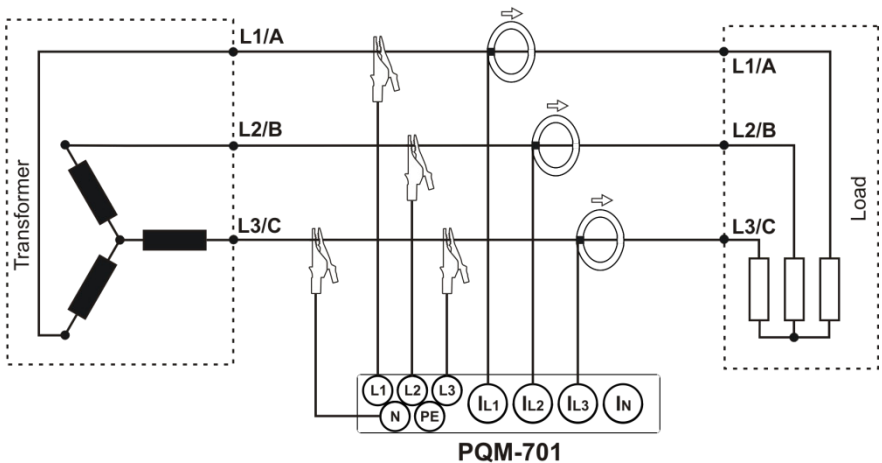
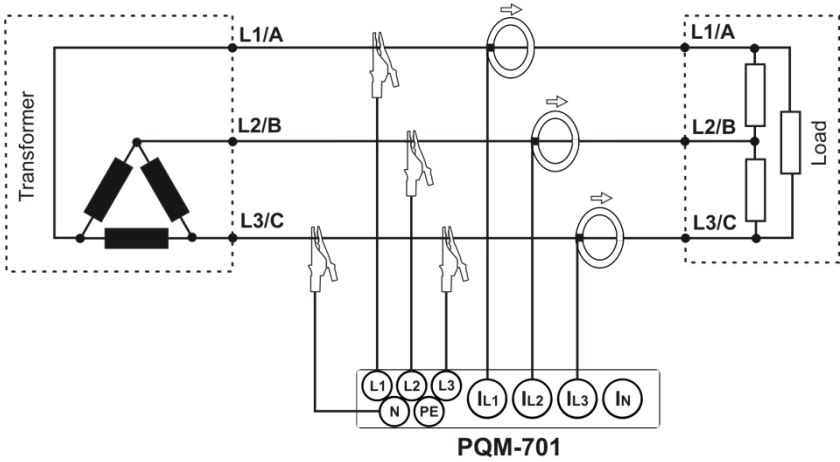
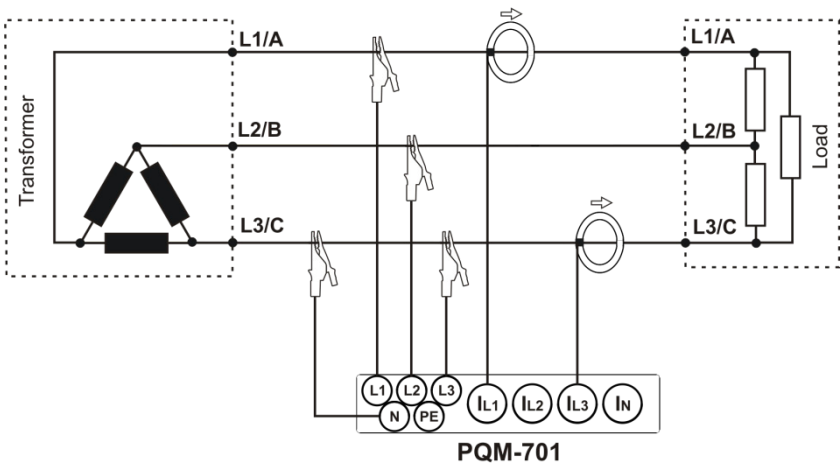
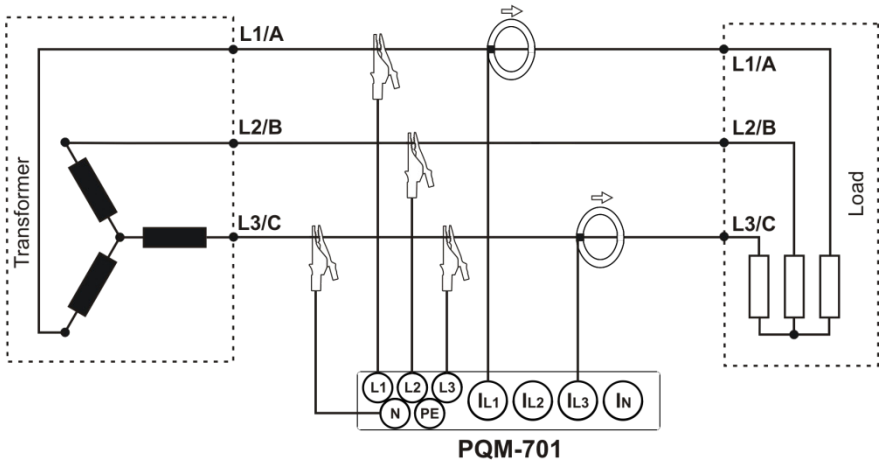

Fig. 7. Connection diagram – three-phase wye system without neutral conductor.
Fig. 8. Connection diagram – three-phase delta system.
Fig. 9. Connection diagram – three-phase delta system (current measurement with Aron's method).
Fig. 10. Connection diagram – three-phase wye system without neutral conductor (current measurement with Aron’s method).
- Three-phase 3-wire delta (Fig. 7).
This method can be used in the delta systems (Fig. 8) and the wye systems without neutral conductor (Fig. 9).
*Because the voltage measuring channels are referenced to terminal N, in the systems without neutral conductor, it is necessary to connect (short) the N and L3 analyzer terminals, as shown in Fig. 7, Fig. 8, Fig. 9 and Fig. 10 (three-phase 3-wire wye and delta systems).*